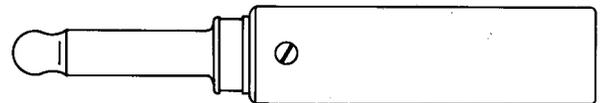

Fig. 1—1D or E Plug
2.01 1D and E: The 1D and E plugs (Fig. 1) have single conductors and are equipped with long shells which cover the cord ends of the plug bodies to provide additional insulation. The plugs are used with the 99- or similar-type jacks and replace the 1B and 1C plugs.